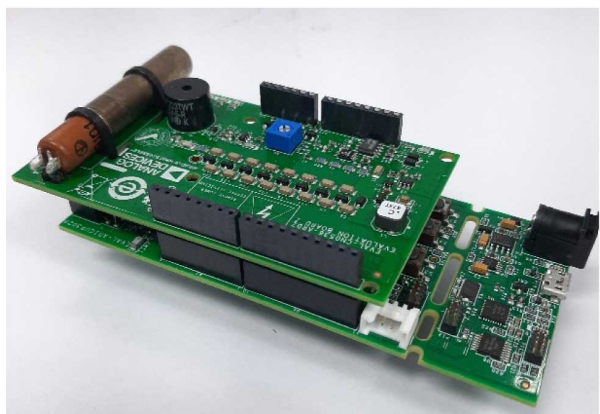

Figure 17. EVAL-CN0536-ARDZ and EVAL-ADICUP3029 Connection
1. Connect the EVAL-CN0536-ARDZ on top of the EVAL-ADICUP3029 platform board as shown in Figure 17.